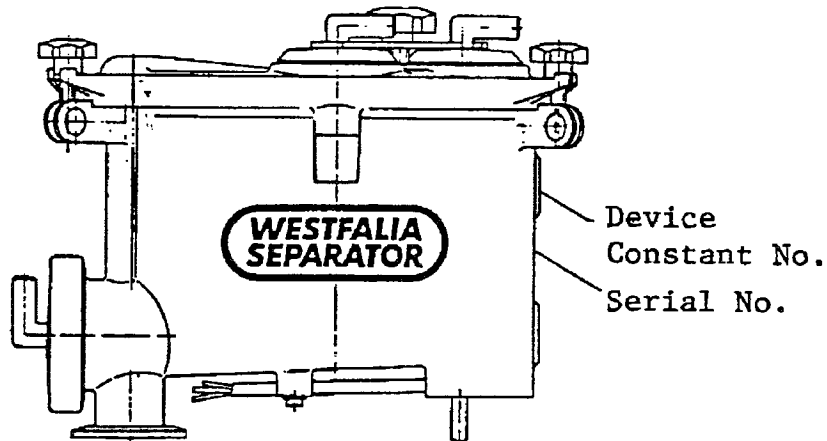

Fig. 9
* This number is written on the meter serial number tag (see fig. 9).